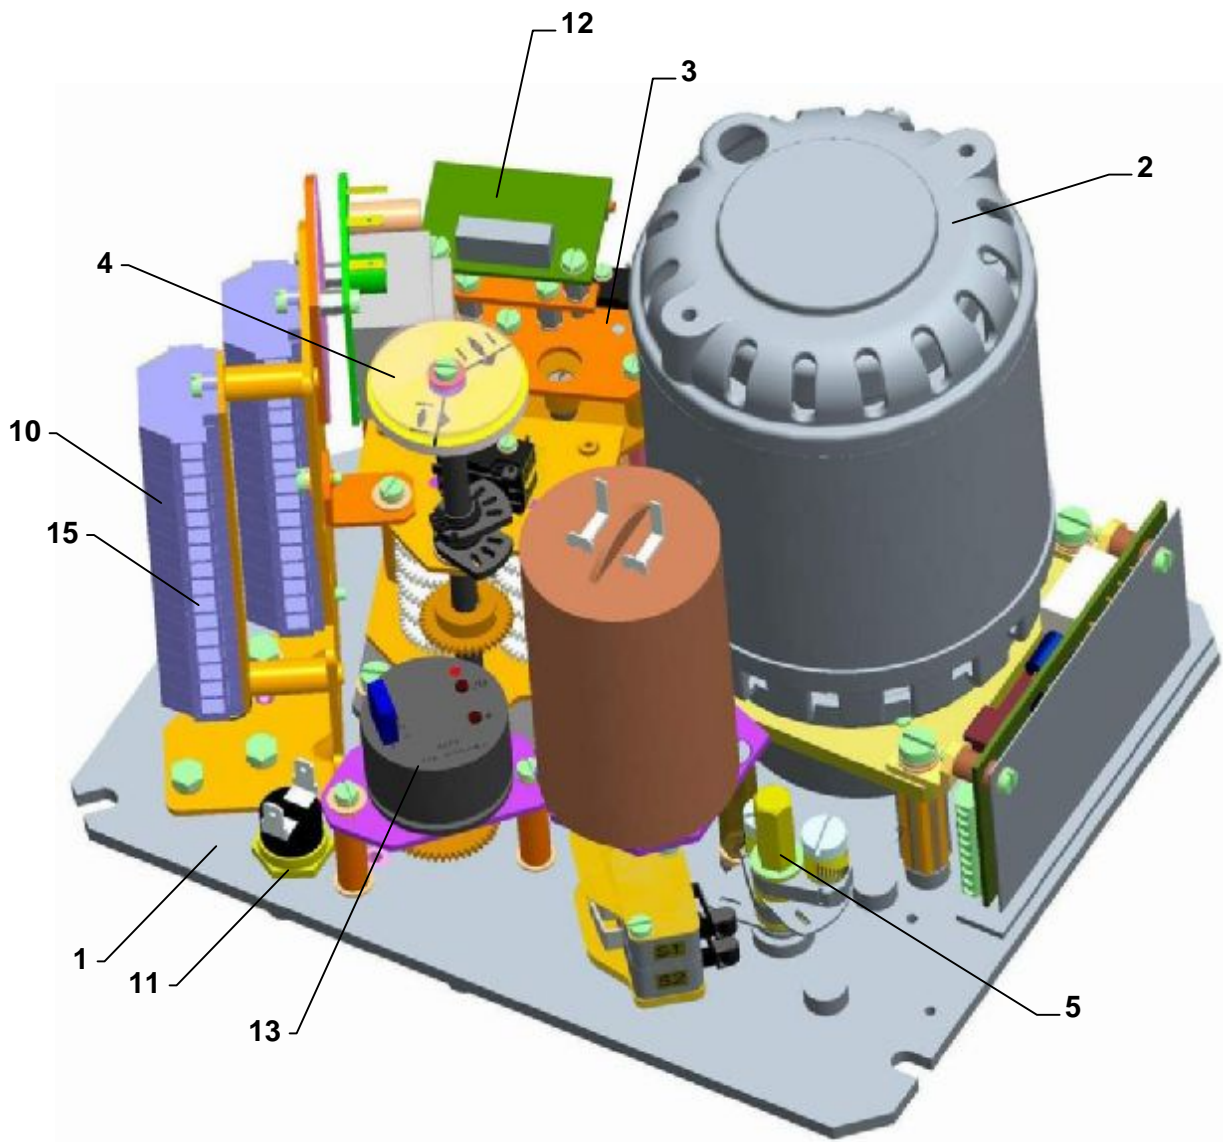

Рис.1
**Управляющая часть (рис. 1)** размещена на пульте управления (1), который содержит:
- an electric motor (2) (for the single-phase version it is with a capacitor )
- a torque unit (5) – controlled by axial motion of a worm gear
- a position-signalling unit (3) with a mechanical local position indicator (4)
- an electronic position transmitter (12)
- a position transmitter (13)
- a space heater with thermal switch. (11)
- electric connection is realised using **terminal boards** (10) (located in the control area) and cable bushings with cable bushings